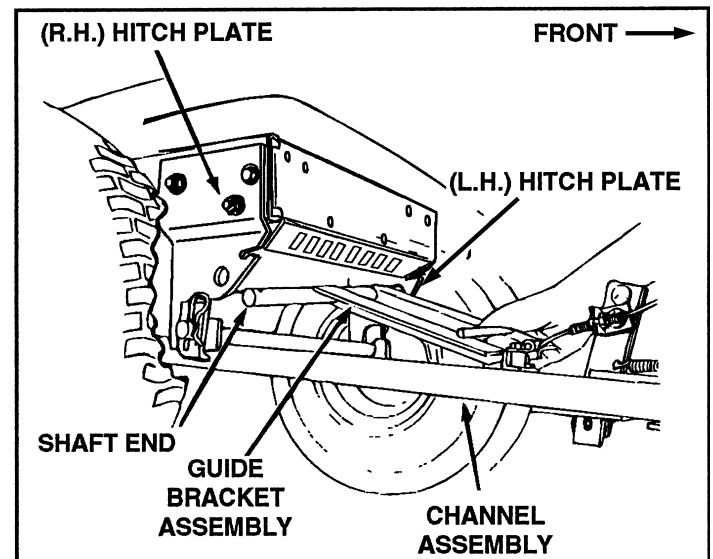

FIGURE 26
30. Assemble guide bracket assembly shaft end into the left hand hitch plate. See figure 26. Slide guide assembly back to the right and into the hole in the right hand hitch plate.